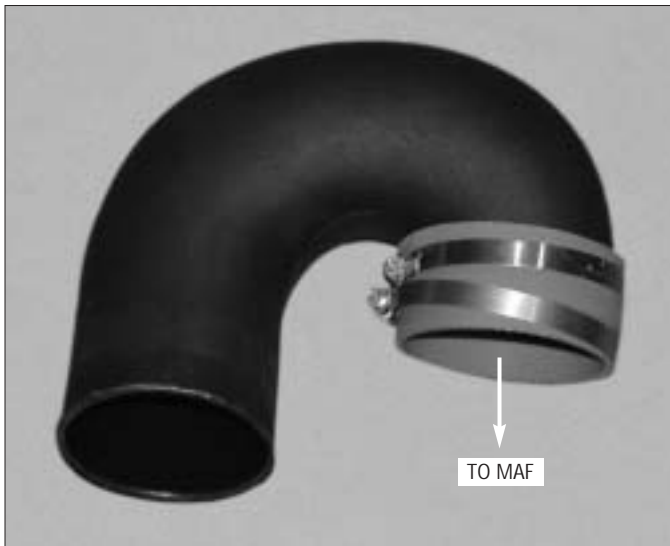

Fig. 12-e
- L. Locate and install a 4.0" x 2.0" long sleeve to the inlet of duct 4FU012-010 and 2 # 64 clamps. (See Fig. 12-e.)